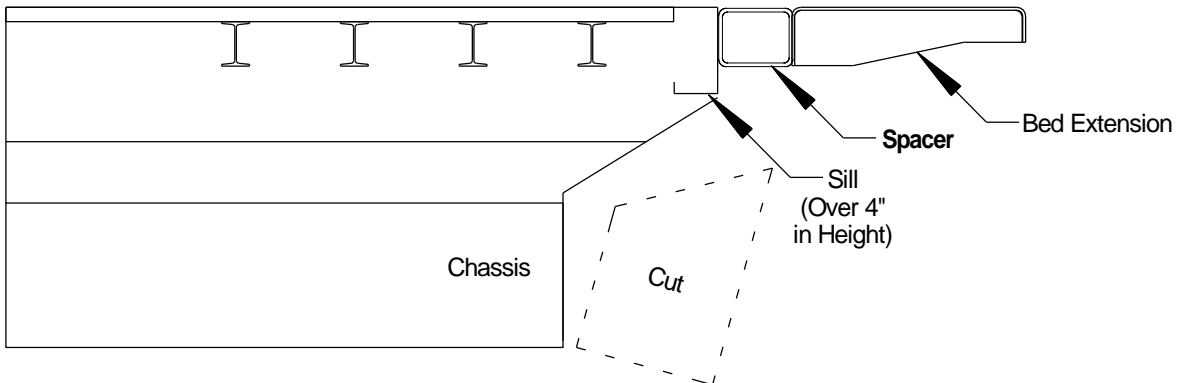

Fig. 2
2. If the vehicles sill measures more than 4" in height, add a spacer to the rear of the vehicle, **Fig. 2**. The spacer will shift the bed extension back allowing the platform to clear the bottom of the sill when it is in stored position. Reference cutout dimensions from Step 1 to determine the chassis cutout.